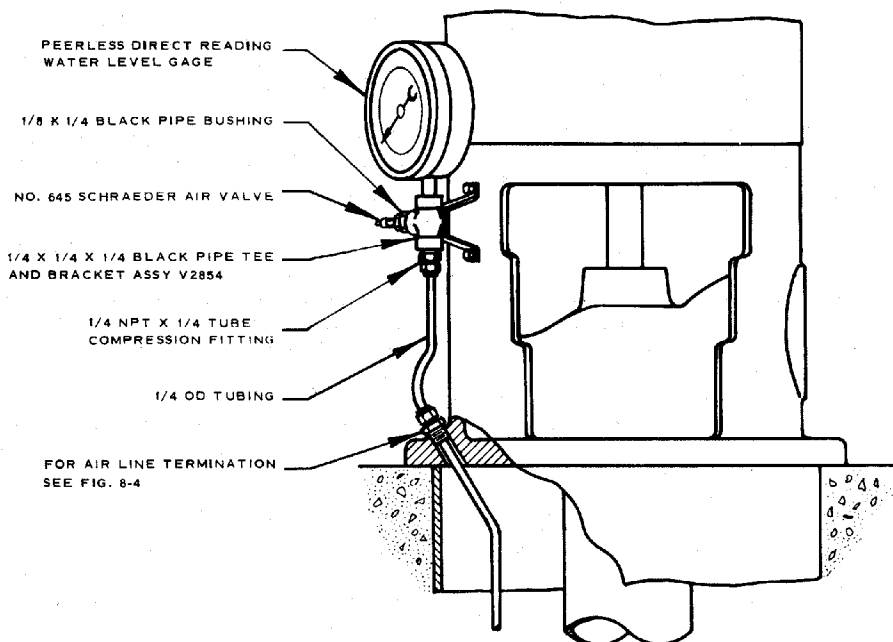
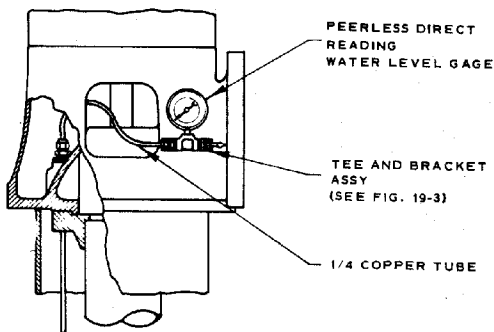

Fig. 19-1. Gage Installation – $2\frac{1}{2} \times 3 \times 10$ or $2\frac{1}{2} \times 2\frac{1}{2} \times 10$ Discharge Heads
Fig. 19-2. Gage Installation - 6x6x12 Or Larger Discharge Head.
B. Assemble the water level gage and the air valve on the tee and bracket assembly. Attach the bracket to the side of the discharge head, using the cap screws, nuts, and lock washers provided. (See Fig. 19-1 or 19-2 and 19-3).
to the air line. Connect the upper end of the tube to the tee at the gage, using a compression fitting (1/4 tube x 1/4 NPT). (See Fig. 19-1.) If the discharge head is a $4 \times 4 \times 10$ C, the air line has been attached to the bottom of the head. Install the 1/4 elbow type tube fitting in the 1/4 NPT hole located just above the bottom flange of the head (see Fig. 8-2c). Attach one end of the 1/4 OD tubing to this elbow and the other end to the tee at the gage, using a 1/4 tube fitting. In the case of a $6 \times 6 \times 12$ or larger discharge head, the air line was terminated with a compression fitting at the top of the discharge head base. Attach one end of the short tube to this fitting and the other to the tee at the gage, using another compression fitting. (See Fig. 19-2.)